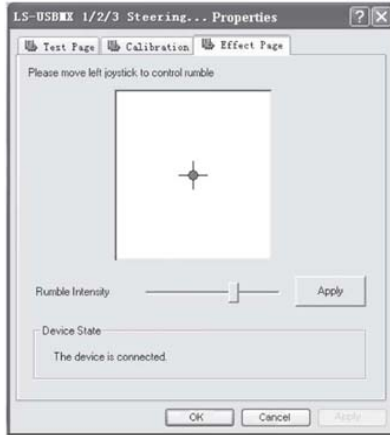

Fig. 10
- *Motors test.* Enter “Effect Page” (see Fig. 10) to test motors. Rotate the wheel and check if the left motor vibrates. Press the left wing and right wing ④ and check if the right motor vibrates. Vibration feedback force can be changed by moving the cursor to the right or the left along the “RumbleIntensity” line (fig.10).